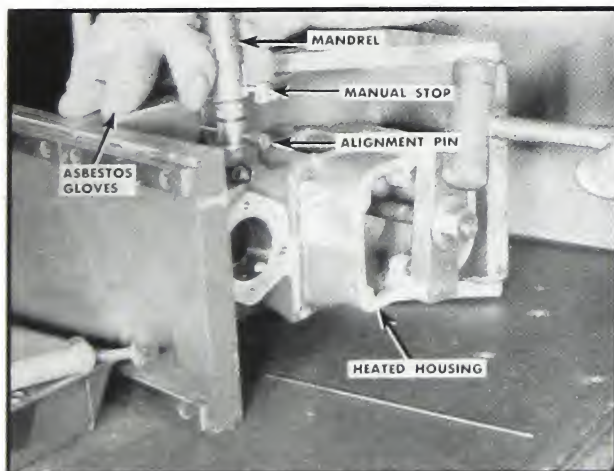

Fig. 5-235. Drive in new stop valve
5. Heat the pump housing to 200° F., and with light blows, drive a new valve assembly in position. Fig. 5-235.